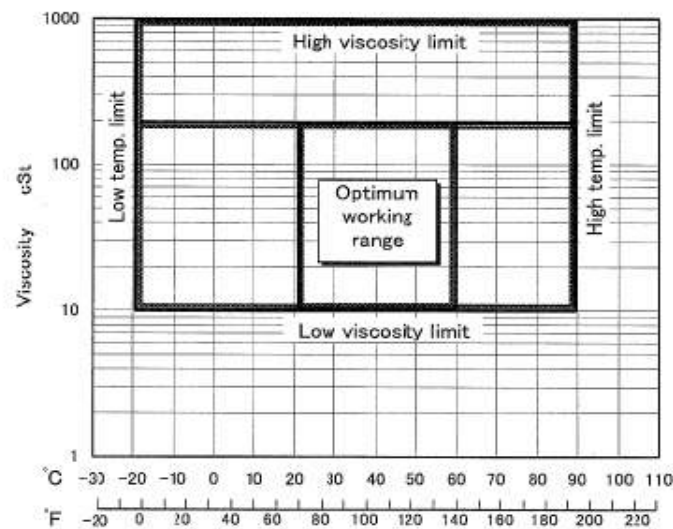

Fig.6 Appropriate viscosity/temperature range
4.4.2 Optimum Viscosity and Temperature of Hydraulic Oil (Fig.6)